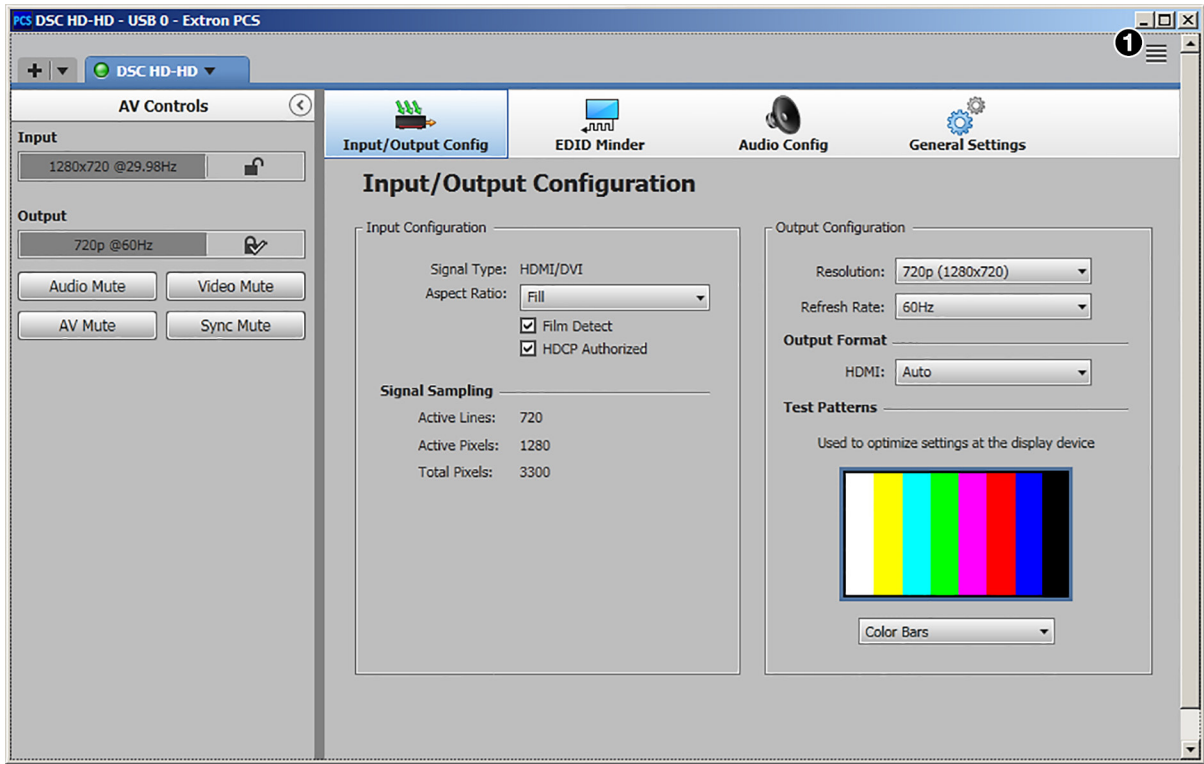

Figure 20. PCS Menu Icon on the PCS Main Window
5. On the main window, click the **Software** menu icon in the upper-right corner (see figure 20), and select **DSC HD-HD Help** from the drop-down menu for the procedures for connecting to the DSC and configuring it.